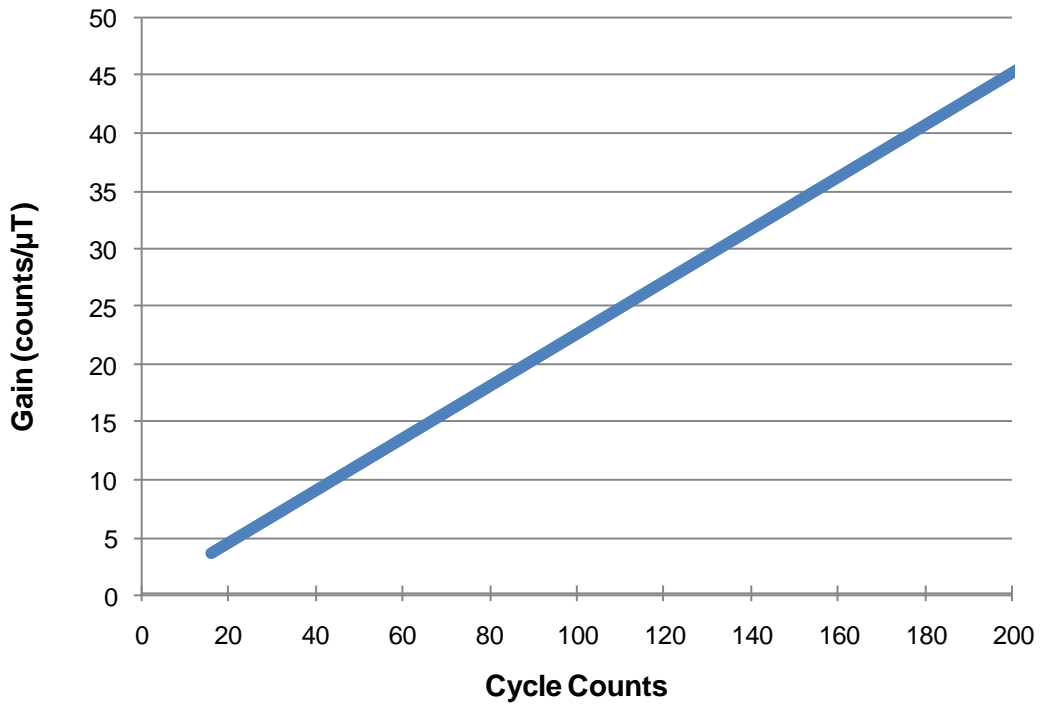
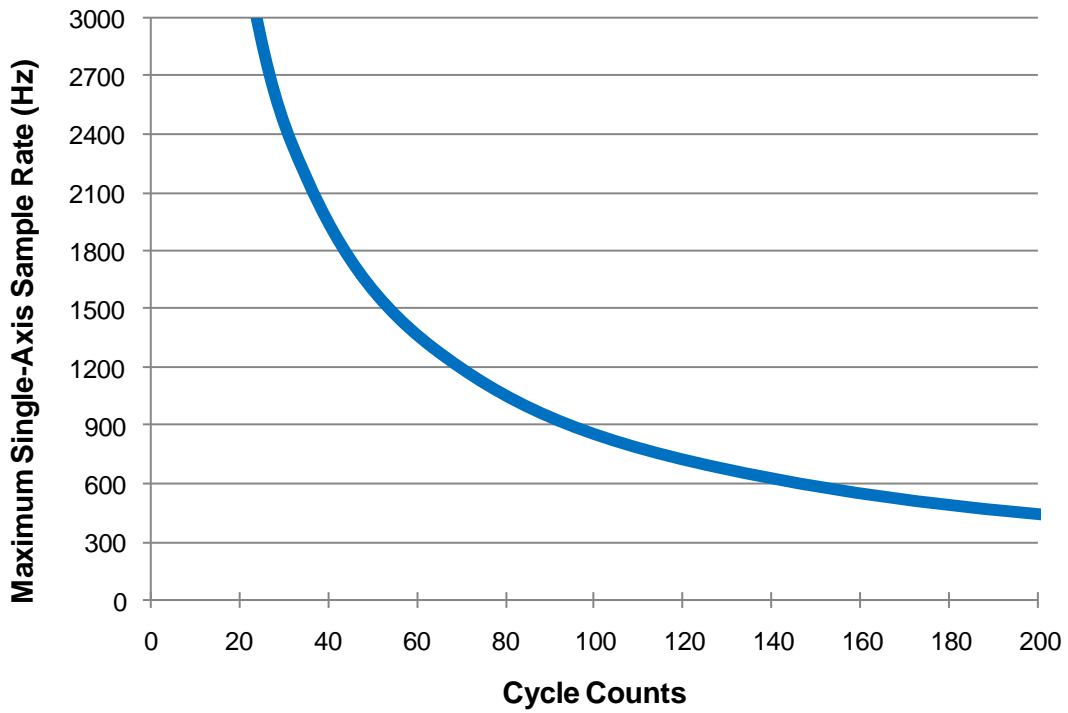
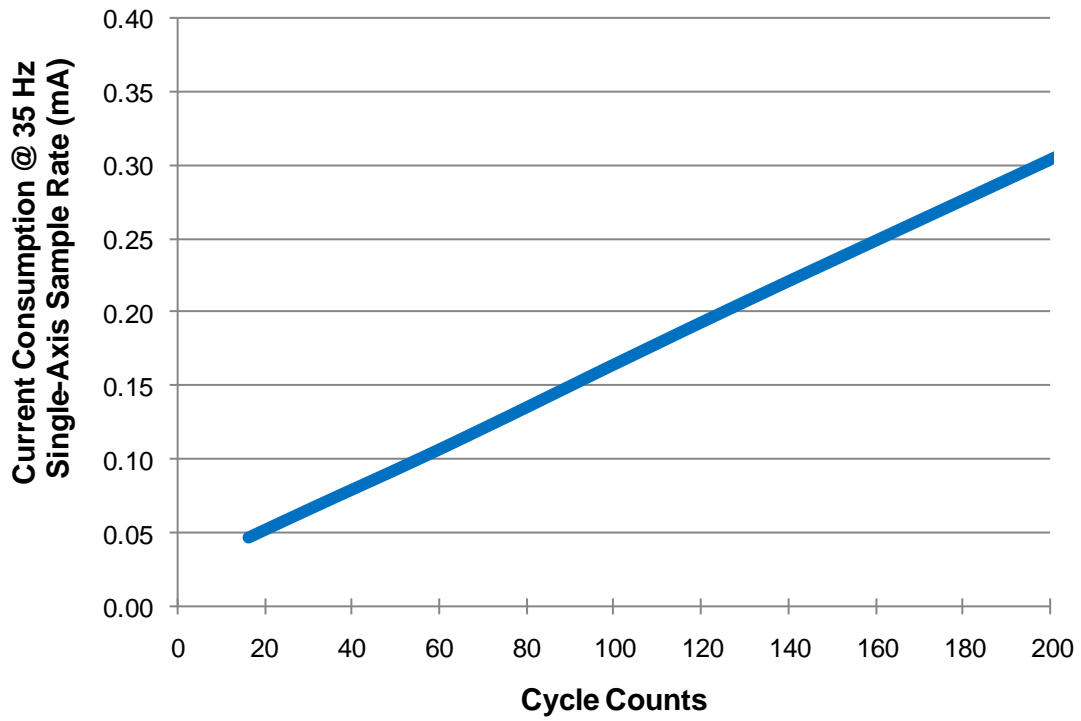

Figure 3-4: Gain vs. Cycle Counts – Standard Mode
Figure 3-5: Single-Axis Sample Rate vs. Cycle Counts – Standard Mode
Figure 3-6: Current Consumption vs. Cycle Counts – Standard Mode
3. Gain and noise are related to useable resolution. Below  $\sim 200$  cycle counts the gain setting dominates the usable resolution (resolution = 1/gain) while above  $\sim 200$  cycle counts the system noise dominates. The user establishes the gain value by setting the Cycle Count Register value. See Figure 3-4 for the typical relationship between cycle counts, gain, and resolution. Above  $\sim 200$  cycle counts noise is relatively constant and there are diminishing returns in usable resolution as the cycle count value increases. Also, performance will vary from sensor to sensor:  $\sim 50\%$  of the sensors will have performance greater than "Typical" and  $\sim 50\%$  less than "Typical".
4. The maximum sample rate and gain/resolution are inversely related, so higher sample rates can be obtained by reducing the number of cycle counts, but this also results in reduced gain and resolution. Also see Figure 3-4 and Figure 3-5.
5. Operating at reduced cycle counts reduces current consumption, but also reduces resolution. Operating at greater cycle counts increases current consumption but, due to system noise, does not significantly increase useable resolution. Also see Figure 3-6.
Figure 3-4, Figure 3-5, and Figure 3-6 show performance when operating in Standard Mode out to 200 cycle counts. Operation in Standard Mode at more than 200 cycle counts usually is inefficient since more time and power is consumed per measurement, with diminishing returns in usable (noise-limited) resolution.